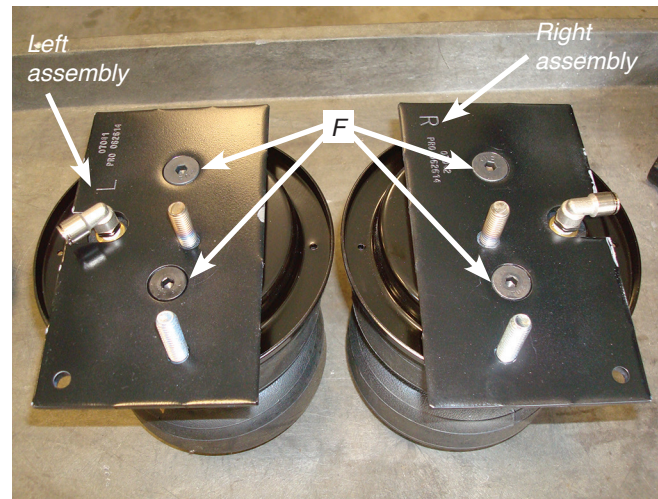

Fig. 7
5. Set both brackets onto the air springs and attach using the 3/8" flat head screws (F). Torque to no more than 20 lb.-ft. (Fig. 7).